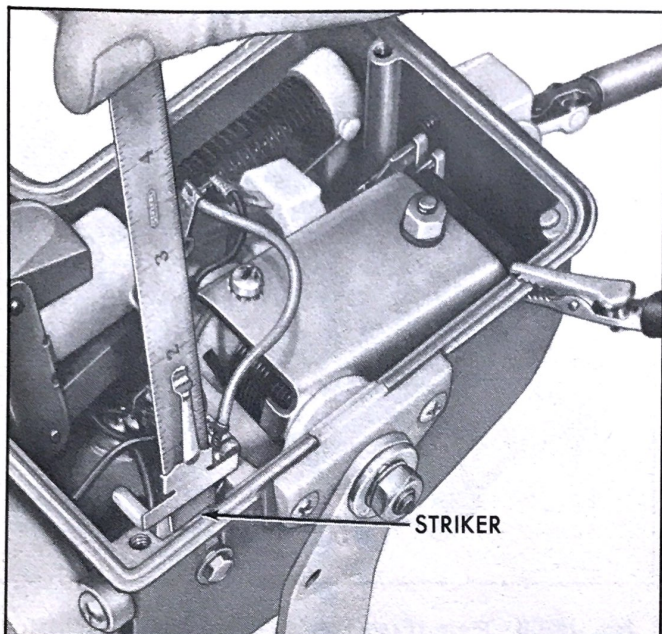

Fig. 15-19 Limit Switch and Throttle Switch Adjustment
4. Loosen screw securing striker to housing and move striker up if motor is not running. Then slowly move striker down until motor just stops running and tighten screw. Measure distance from housing to top of striker, Fig. 15-19, using a "T" scale. Increase measurement $1/32''$ on "T" scale.